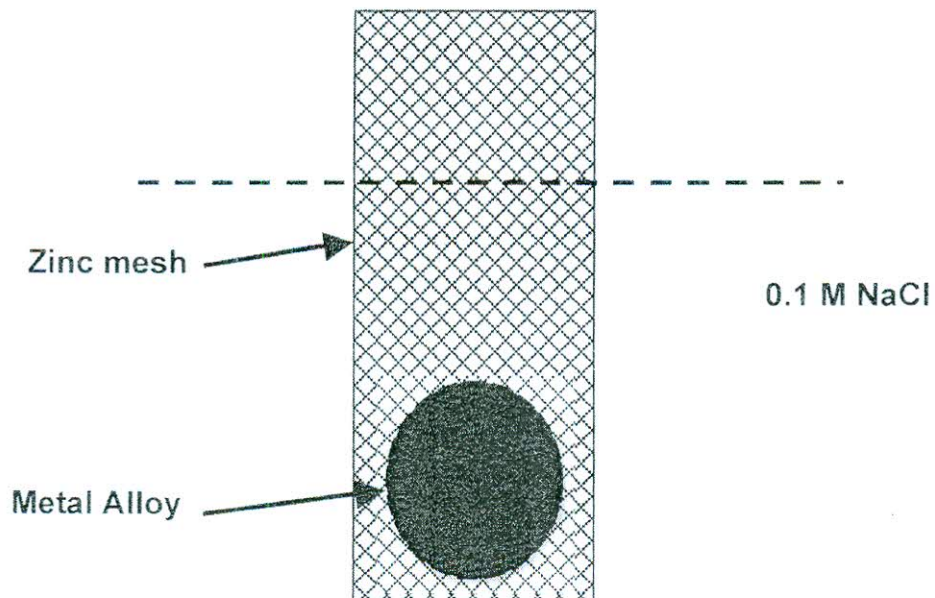

Figure 2
- [b] Figure 2 shows a powder-based metal alloy pasted on Zinc mesh and used as working electrode in 0.1 M NaCl